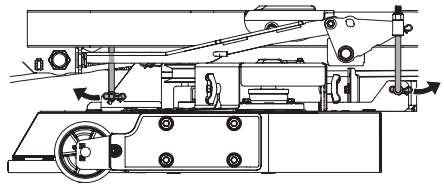

Figure 46
- Remove the bow-tie pin from the bottom clevis end of each deck height adjust rod. There is one at the front and one at the rear on each side of the deck (Figure 46) (left side shown).